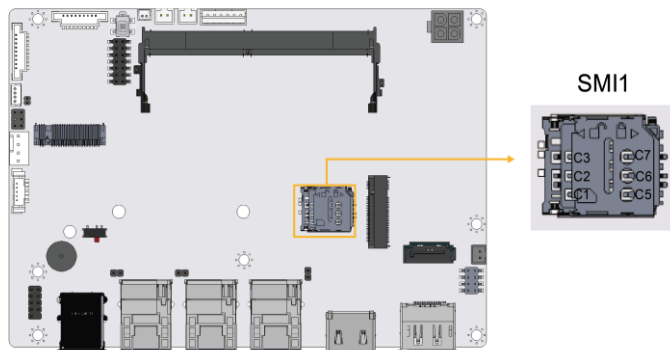

Figure 3-22: SIM Slot Location
- CN Location:** See **Figure 3-22**